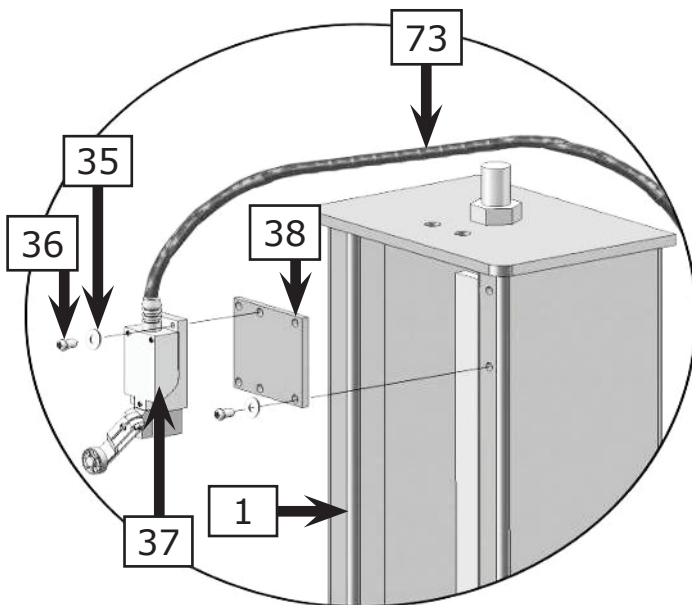

Fig. 32
3. Install limit switch on the column (See Fig. 32).